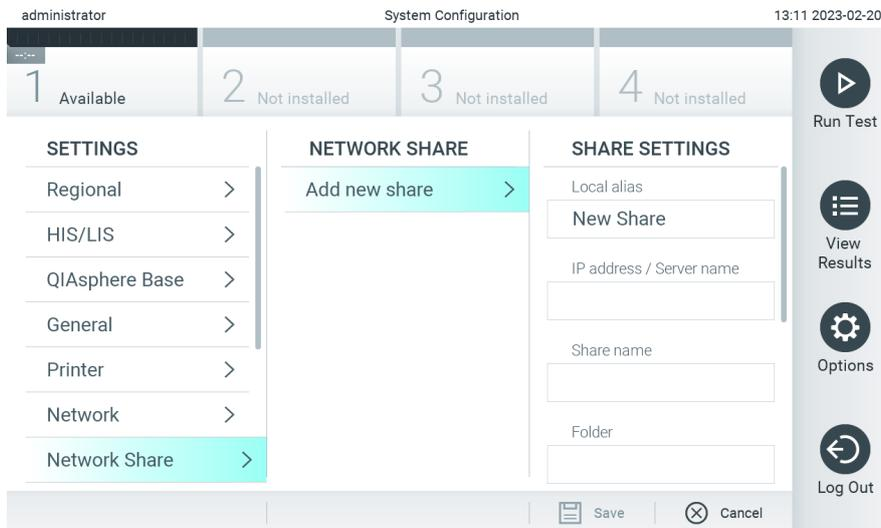

Figure 68. Adding a network share.
3. Press the **Add new share** button (Figure 68).